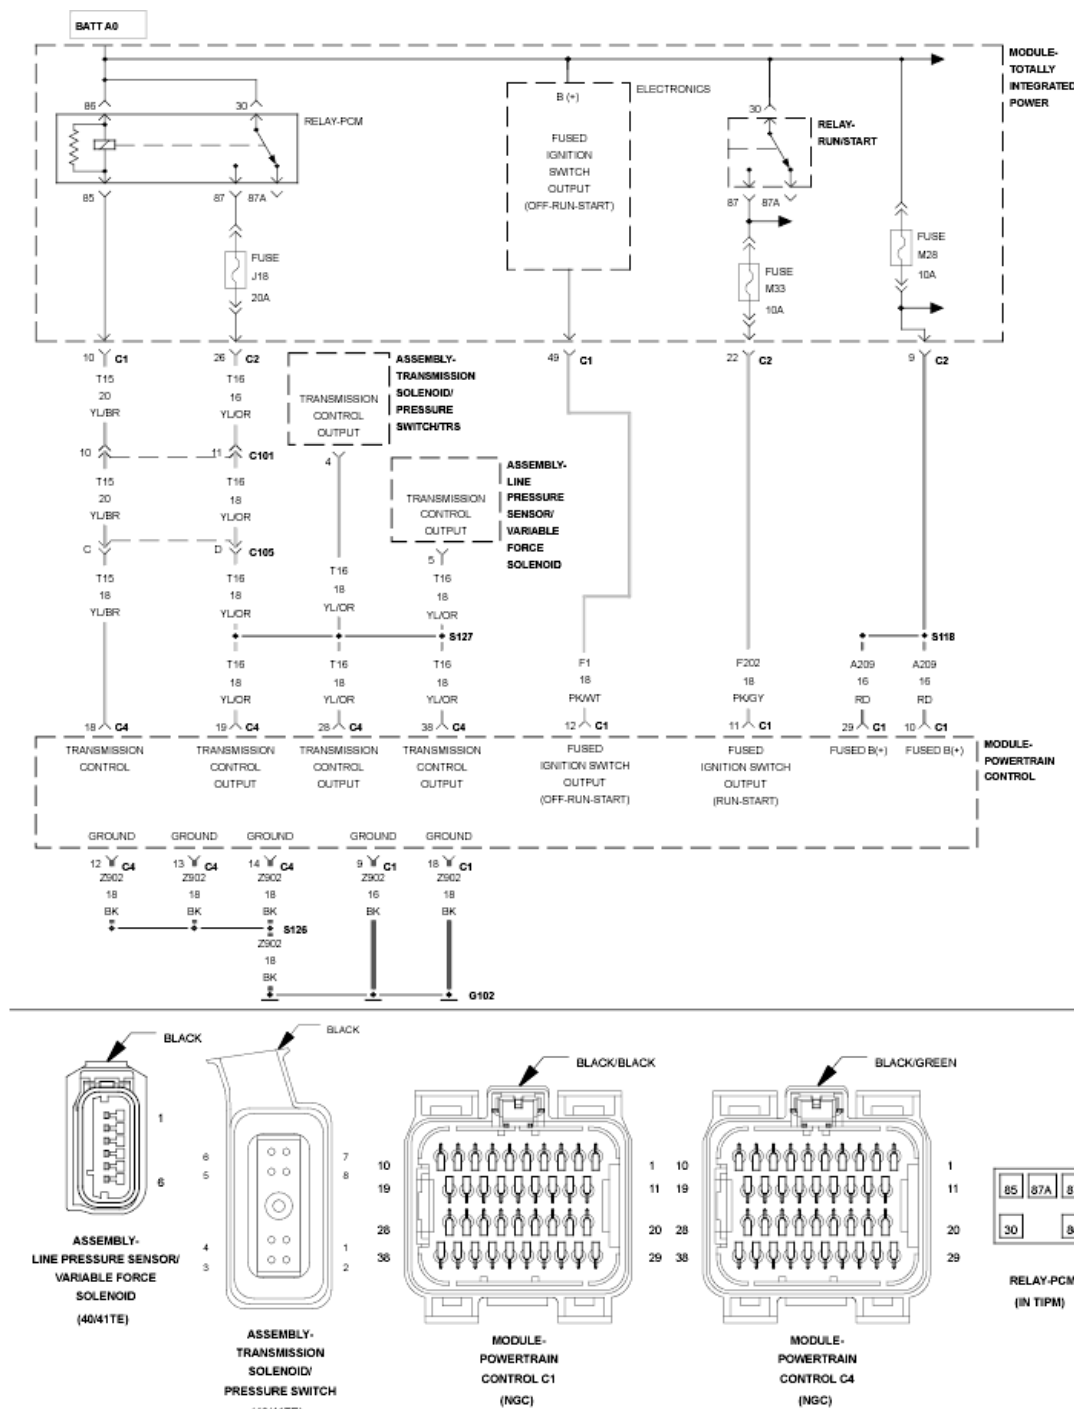

Fig. 79: TCM Power Control - Circuit Schematic
2. Using **Fig. 79** as a guide, inspect the wiring and connectors.